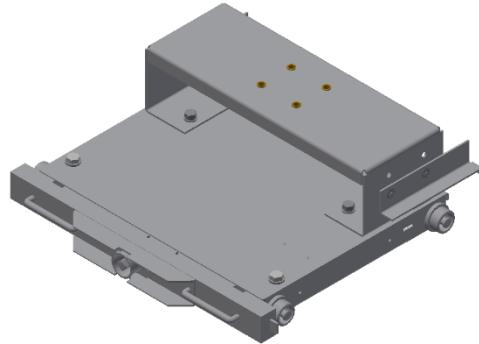

Fig. 4-20 Shutter lifter truck for busbar side shutter
- For busbar side shutters: Fit push plate as indicated in the picture Fig. 4-20.